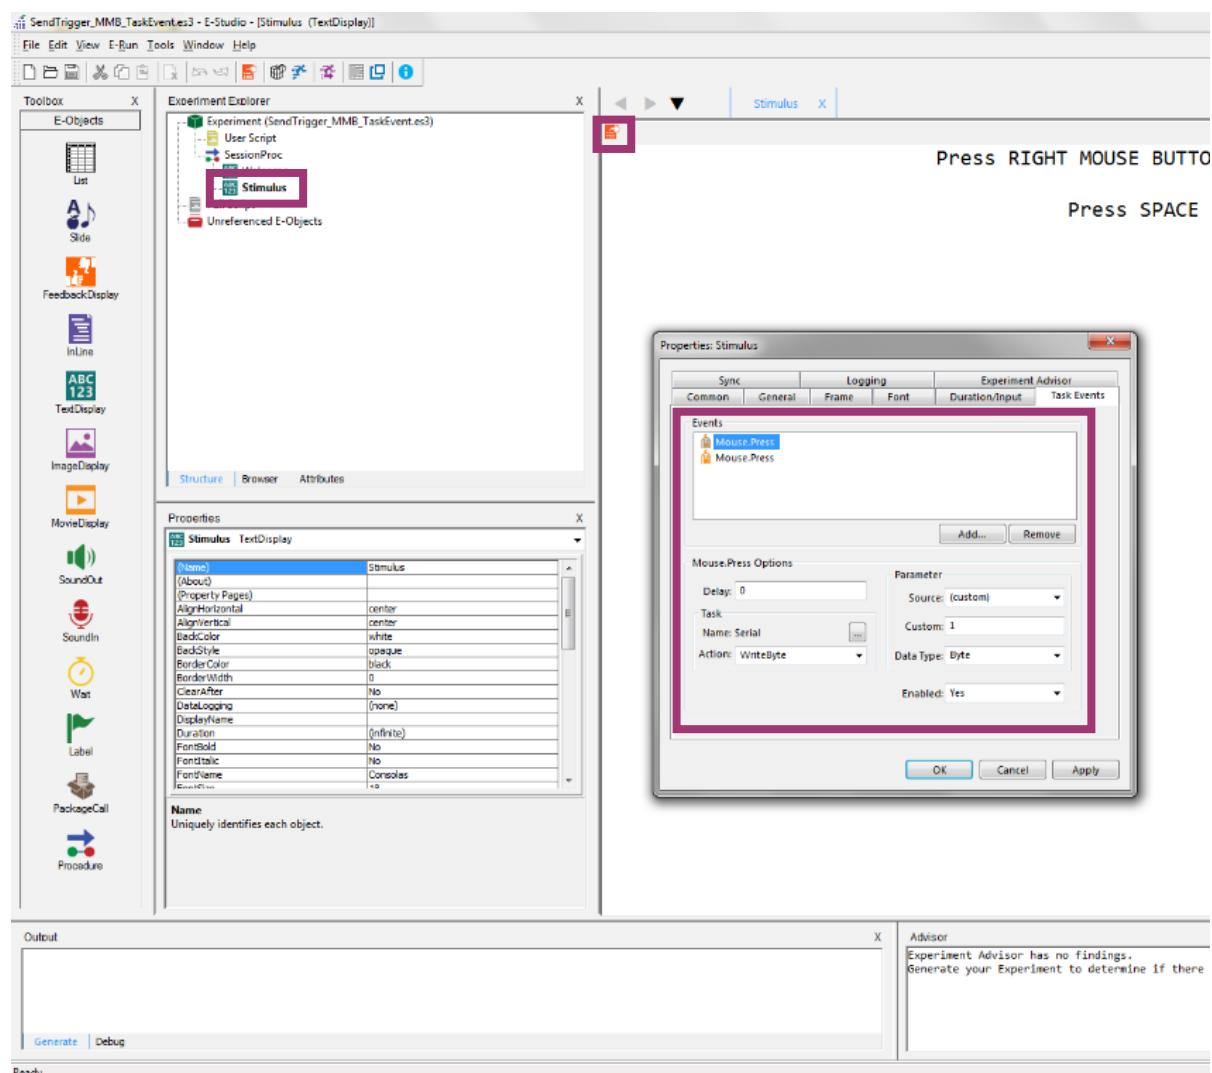

Figure 12: E-Prime Task Event Settings Window
When working with any E-Objects in E-Prime, sending trigger markers is set in the settings window of the corresponding E-Object. The settings for each E-Object in E-Prime is accessible via the orange button on the top left of the block (Figure 12). Make sure that the MMBT-S is connected to your computer via the USB cable and the appropriate device settings under **Edit > Experiment... > Devices > Serial (add device if needed)** are set. In the sample experiment below (Figure 12), two events were added when the mouse of the computer is clicked. Both events send a trigger marker “1” (trigger pin 1 goes HIGH).
**Please note:** if the MMBT-S is set to Simple Mode, make sure to use two Events. The first Event sets the according pin to HIGH (i.e. “sends a trigger”) and the second event to brings all pins to LOW again (i.e. “stops the trigger”), as in the example above (Figure 12). Read chapter 2.3 for more information on the different Runtime Modes.